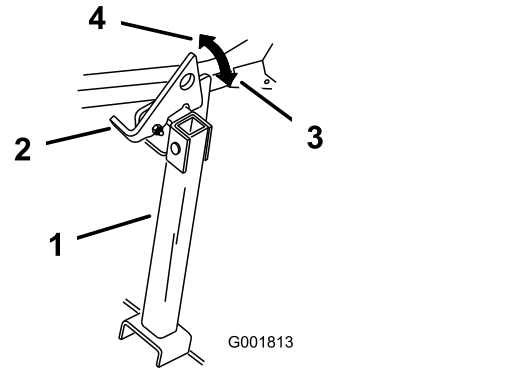

Figure 44
- Raise the latch to the unlocked position (Figure 44).